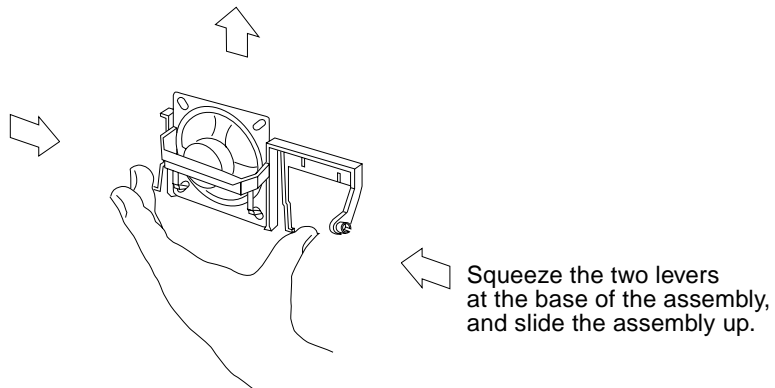

FIGURE 11-16 Raising the Speaker/LED Assembly
- b. **Raise the speaker assembly to allow removal of the main logic board (see FIGURE 11-16).**